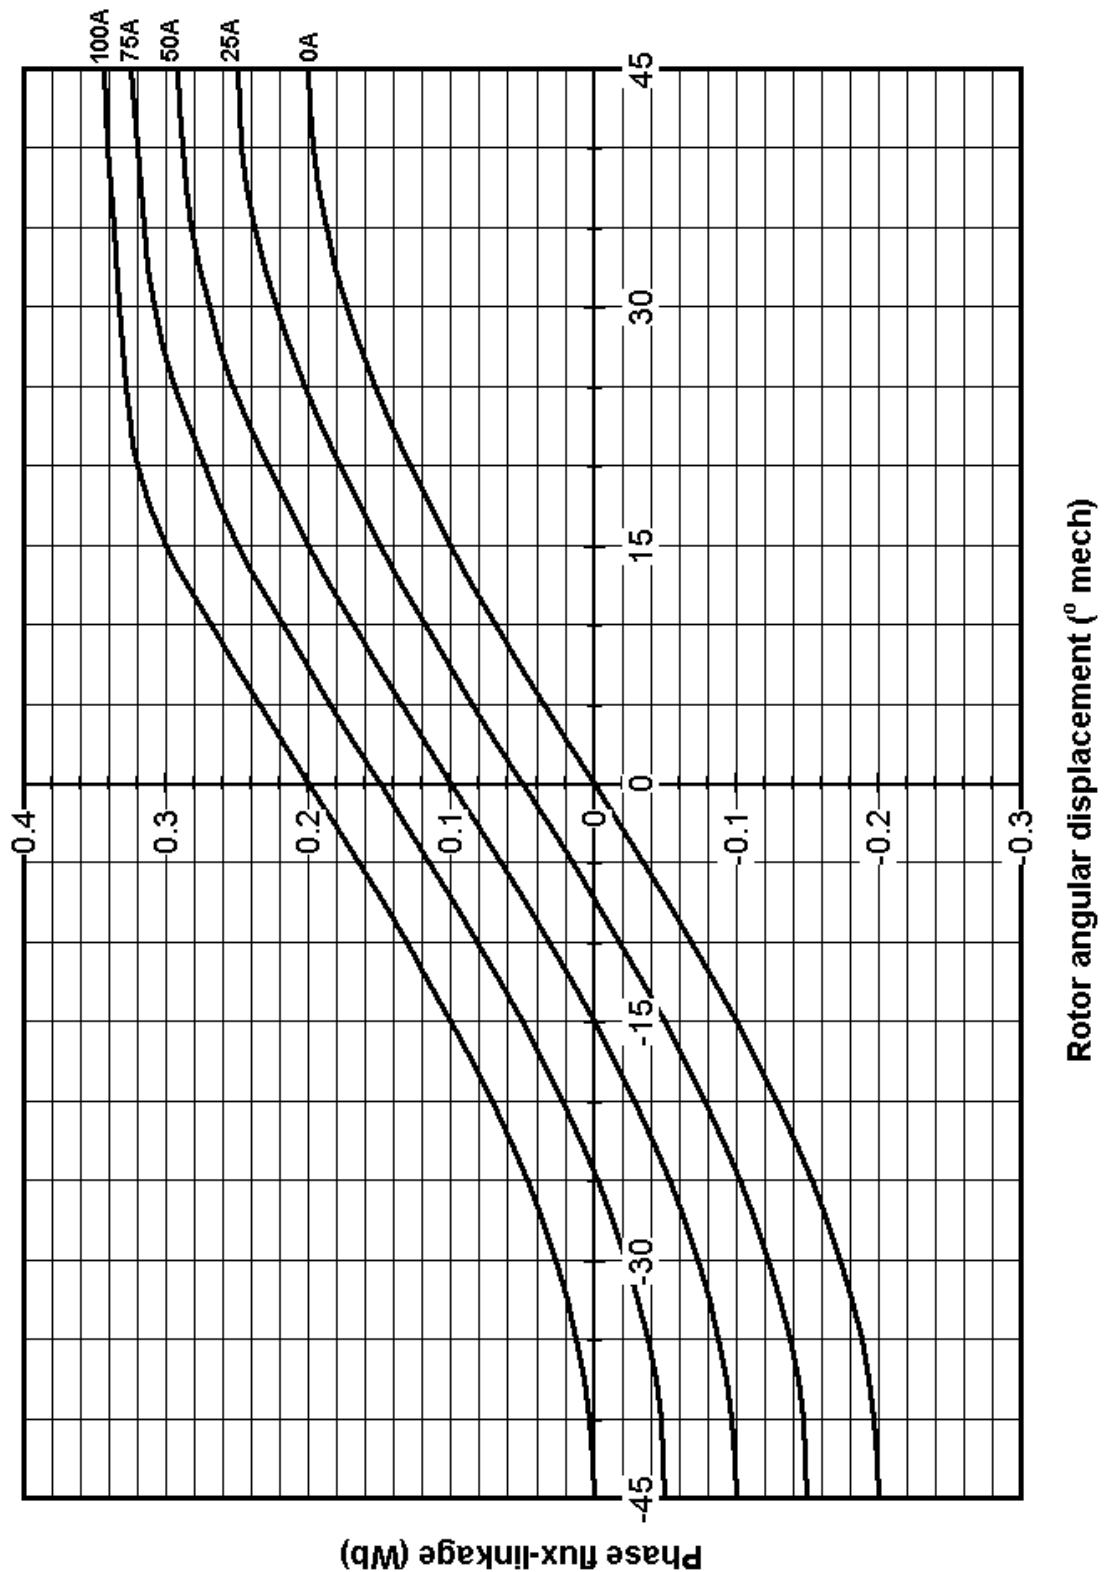

Figure 4 Measured variation of flux-linkage of one phase of a non-salient, three-phase permanent magnet brushless machine
- a. Estimate the average torque produced per phase in moving from the un-aligned to the aligned position for a phase current of 5A (5)
- b. The stator and rotor core materials saturate at a flux density of approximately 1.6T. Using the flux-linkage versus current characteristic for the fully aligned position, estimate the length of the airgap. (4)
- c. By plotting a corresponding flux-linkage versus rotor angular displacement characteristic, estimate the magnitude of the instantaneous induced phase emf at a rotor angular displacement midway between the un-aligned and aligned positions for a current of 3A and a rotational speed of 200 rpm. (6)
- d. By reference to the flux-linkage versus current characteristics of the machine, describe two design changes that could be made to the machine to enhance its torque capability. In each case, *sketch* representative flux-linkage characteristics in the un-aligned and aligned positions for the original design and the improved design, taking care to label any significant features. (5)
4. Figure 4 shows the measured variation of flux-linkage of one phase of a non-salient, three-phase permanent magnet brushless machine for various levels of current between 0A and 100A. This machine has 6 stator teeth and 4 rotor poles
- a. Calculate the phase inductance of the machine at rotor angles of  $0^\circ$  and  $90^\circ$  and currents of 25A and 100A (i.e. four values of inductance in total) and comment on any differences between the calculated inductances you calculate (3)
- b. Calculate the peak magnitude of the open-circuit emf when the machine is rotating at 3000 rpm. (4)
- c. By plotting appropriate flux-linkage versus current characteristics using the graph paper provided, estimate the average torque produced by the machine over the full angular excursion of  $-90^\circ$  to  $+90^\circ$  for currents of 25A and 100A. (6)
- d. The mechanical airgap in this machine is 1.0mm and the rotor magnets have a thickness in the direction of magnetisation of 6.0mm. Listing assumptions that you make, estimate the number of turns in each phase given that the stator core starts to saturate at a flux density of 1.6T (You may assume that the relative permeability of the magnet is 1.0) (7)